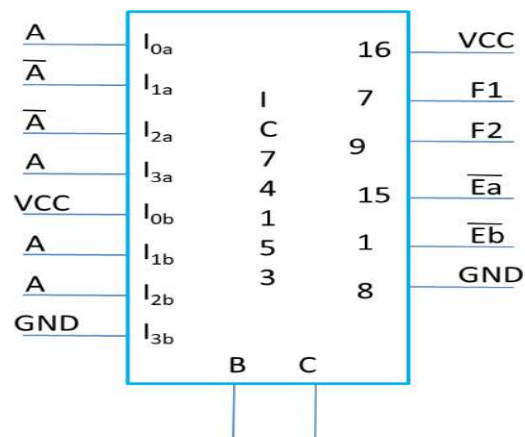

Fig.3.1 Implementation using IC-74153
- 1) Rig up the circuit using IC-74153 and NAND gates as shown in the design(Refer Fig.3.1)